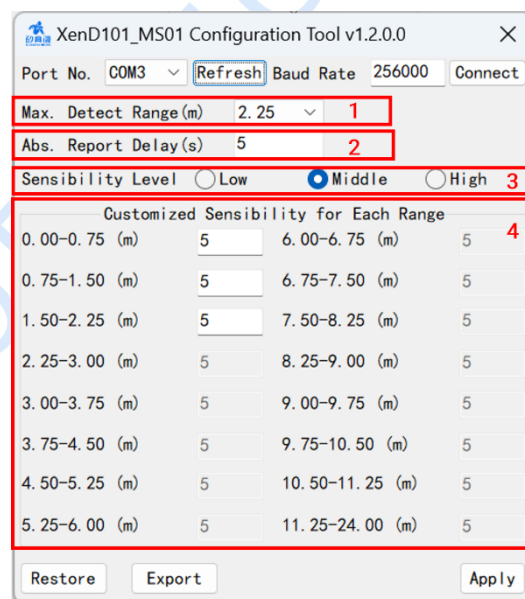

Figure 4-3 GUI of XenD101MS Configuration Tool
- 3) Double click *ICLM_XenD101ConfigTool.exe*, the GUI (graphic user interface) of the configuration tool, which is shown in Figure 4-3, will appear.
Max. Detect Range (maximum detection range): as is highlighted in zone 1 of Figure 4-3, maximum detection range is by default 2.25 m, and its value range is 0.75 ~ 24.00 m.
Abs. Report Delay (absence report delay): as is highlighted in zone 2 of Figure 4-3, absence report delay is by default 5 seconds, and its value range is 1 ~ 76 seconds.
Sensibility levels: as is highlighted in zone 3 of Figure 4-3, there are three optional levels for sensibility. With Low sensibility, the radar can detect moving targets such as pedestrians. With High sensibility, the radar can detect micro-motion such as a motionless standing human or finger movements. With Middle sensibility, the radar detects moderate motions between the former two occasions.
Customized sensibility: If users need to adjust sensibility for each individual range, as is highlighted in zone 4 of Figure 4-3, in Customized Sensibility for Each Range, the sensibility values can be manually configured. All range sensibilities are configured as 5 by default, and the value range is 1 ~ 10, while smaller value means lower sensibility.